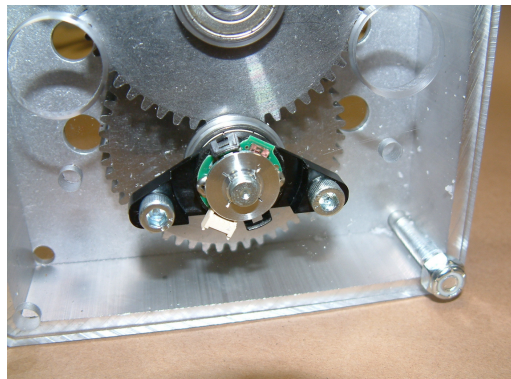
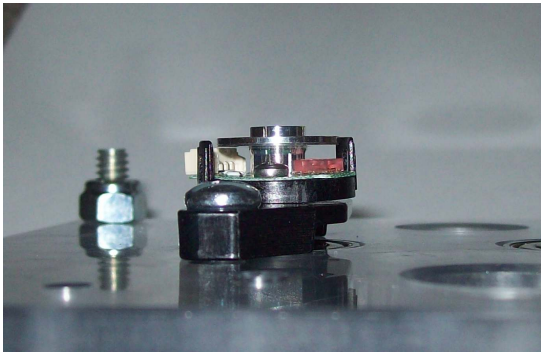

Fig. 14
Fig. 15
Step 4: Place the encoder wheel on to the 1/4 inch output shaft protrusion so that the encoder lines are facing the circuit board. The outside face of the encoder wheel should be flush with the tips of the clip tips of the encoder plastic base (fig. 14, and fig. 15).